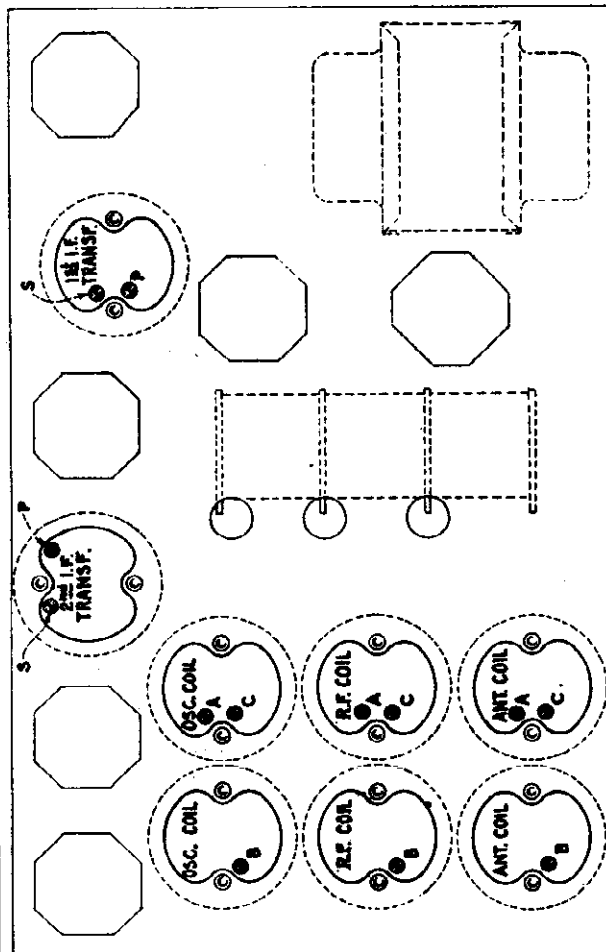

Figure 6—Location of Line-up Capacitors
- (c) Refer to Figure 6. Adjust each trimmer of the I. F. transformers until a maximum output is obtained. Go over the adjustments a second time.
Figure 6 shows the location of the trimmers for each band. Care must be exercised to merely adjust the trimmers in the band under test.